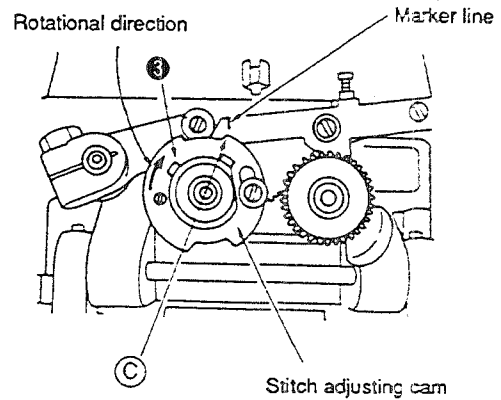

Fig. 3
- 2) Then, check the stitch adjusting cam. (Fig. 3)
If the clutch is thrown out too early, loosen screws **3** and turn the stitch adjusting cam counterclockwise. If the clutch is thrown out too late, loosen screw **3** and turn the stitch adjusting cam clockwise. (Fig. 3)